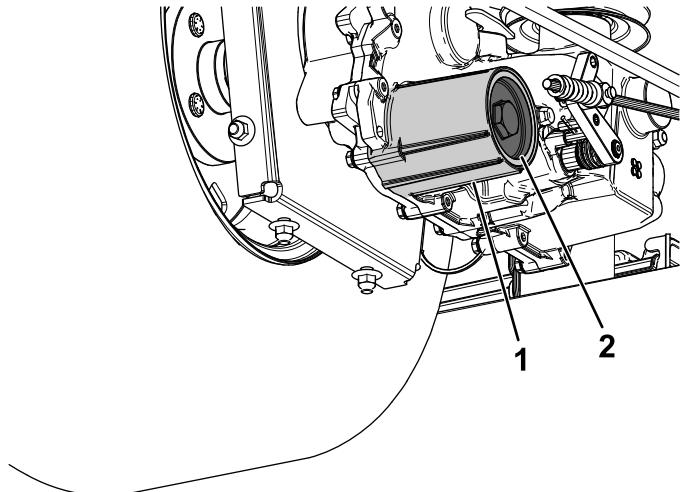

Figure 88
7. Remove the hydraulic-fluid filter cover from the transaxle to drain the fluid (Figure 88).